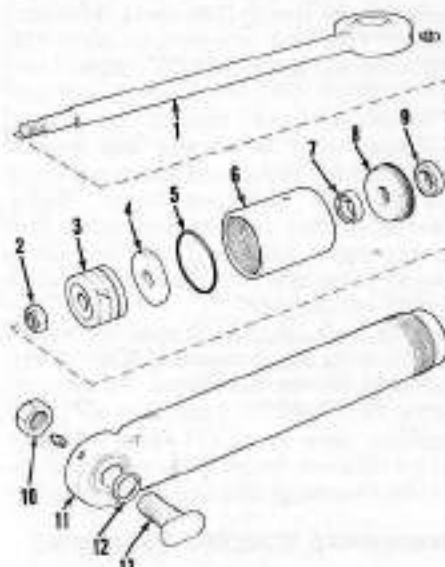

Fig. 44—Exploded view of second type steering cylinder used on Model 1690 tractors. Note differences in end cap and seal design from cylinder shown in Fig. 43.
Fig. 43—Exploded view of steering cylinder used on 1490 and some 1690 models. Note differences in end cap (8) and seals (9 and 10) of this cylinder and similar cylinder pictured in Fig. 44.